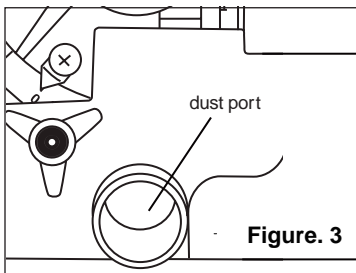

Figure. 3
As shown in Fig. 3.
5. Assemble the LED light to the lamp holder with philips screw and hex nut. As shown in Fig. 3.
6. Use the red knob to lock the LED light. As shown in Fig. 3.
The machine has a 35mm dust port (Fig 3) where it can be connected to a dust extractor.